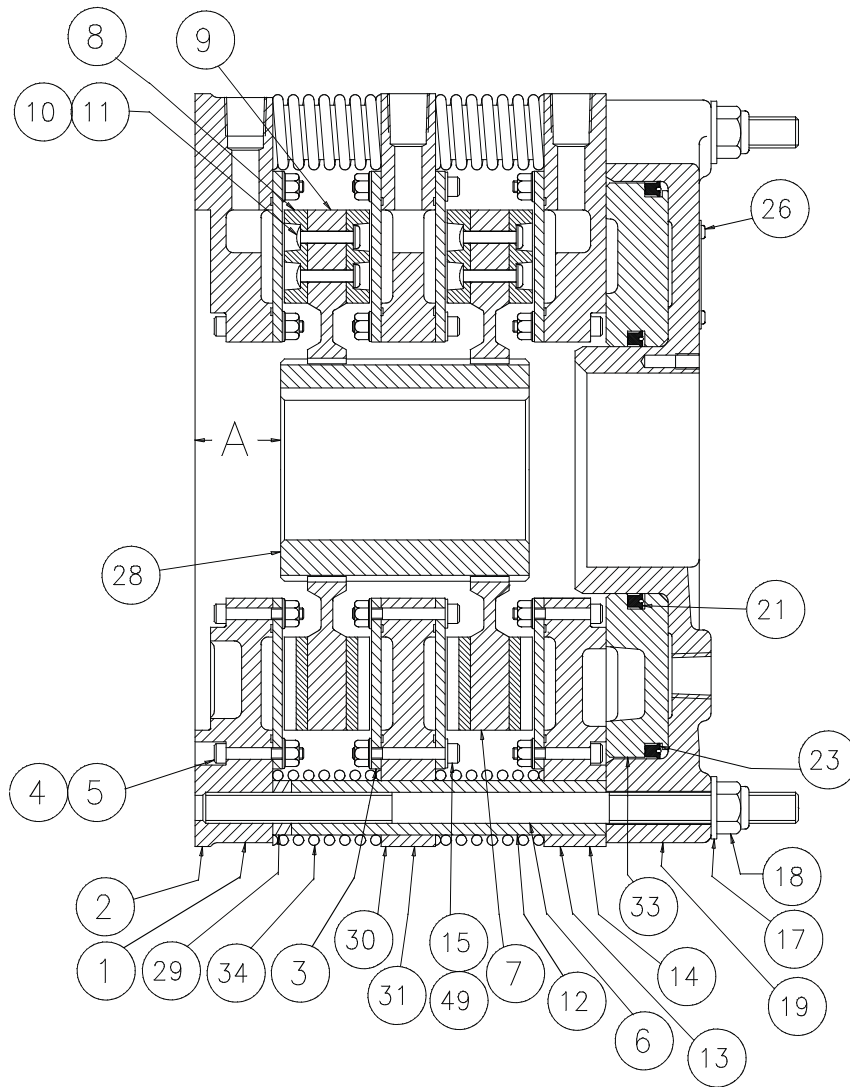

Figure 1
- 1.2.1 Referring to **Figure 1**, the gear (28) is mounted on the shaft which is to be stopped and the tensioner assembly is attached to the machine frame or a reaction bracket.
TABLE 3 "A" dimension on Figure 1 & 2 inches (mm)
- 2.1.4 Refer to Table 3 for the setup dimension between the tensioner mounting surface and the end of the gear (dimension "A" on **Figure 1**). Gears should be positioned to ensure that - when the tensioner is mounted - the disc splines will not overhang the end of the gear when components are in both new and worn conditions. The gear is typically bored and keyed for a resulting Class FN2S interference fit for inch shafting and ISO System S7h6 for metric shafting. Contact Airflex Application Engineering for specific recommendations.
- 2.2.4 Heat the gear uniformly to 250°F (121°C) to expand the bore and ease assembly. Press the gear onto the shaft, making sure that the dimension between the gear and the tensioner mounting surface ("A") is maintained. See **Figure 1** and Table 3. Allow the gear to cool.